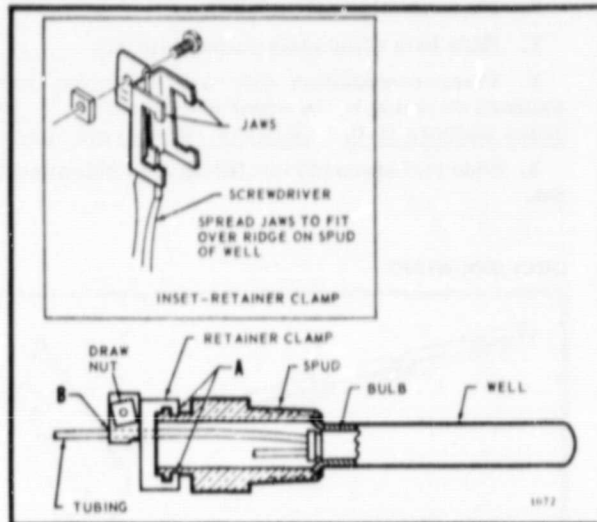
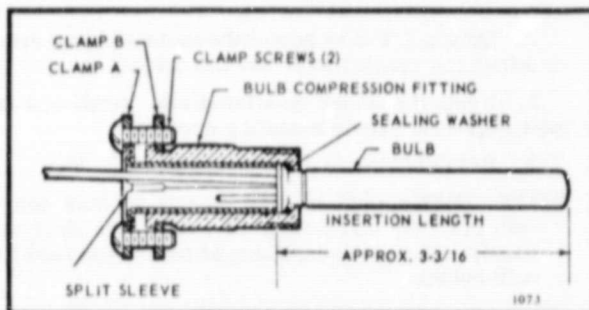
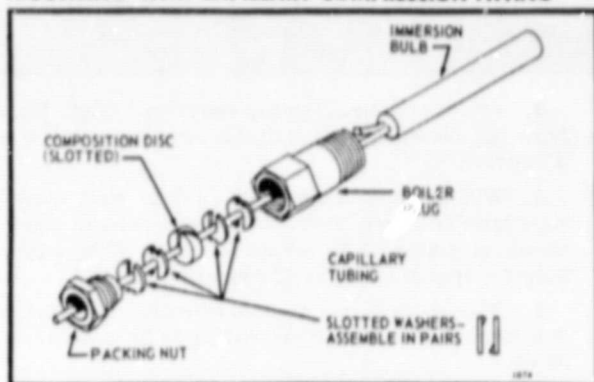

FIG. 5—IMMERSION WELL FITTING.
FIG. 6—BULB COMPRESSION FITTING. USE WITH MODEL L4008A,B,E,J, OR L6008A.
FIG. 7—CAPILLARY COMPRESSION FITTING. USE WITH MODEL L4008C,D,K, OR L6008C,E.
Bulb Compression Fittings (see Fig. 6)—
Capillary Compression Fittings (see Fig. 7)—
The remote temperature-sensing bulb can either be installed in an immersion well (Fig. 5) that extends into the boiler or tank, or it can be directly immersed in the liquid. For installations not using a well, secure the remote bulb with a bulb compression fitting (Fig. 6), or capillary compression fitting (Fig. 7).
Well, bulb compression fitting or capillary compression fitting must be ordered separately. Sizes available: 1/2 in., 3/4 in. NPT spud. Well, if used, must fit sensing bulb snugly for good thermal response. Insert bulb until it rests against bottom of well, then hold it there while tightening the tubing clamp. (See Fig. 5.)
4. Place composition disc and 4 slotted brass washers on tubing in the order shown in Fig. 7. Turn brass washers so that slots are 180 degrees apart.